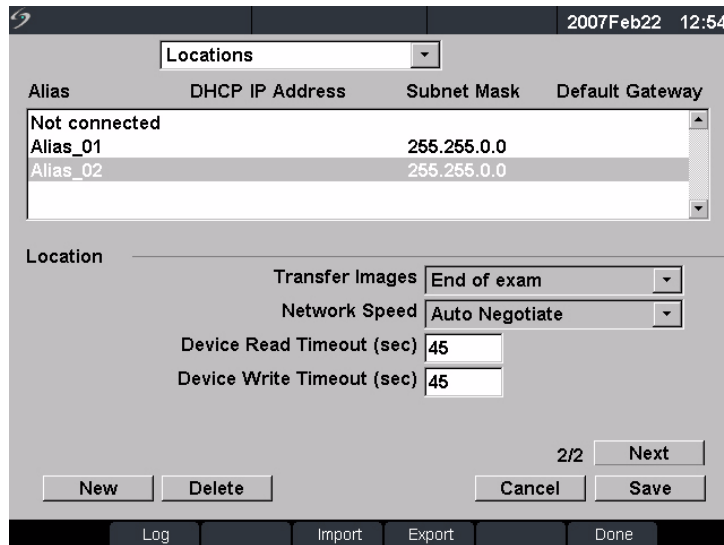

Figure 5 DICOM Locations Configuration (Page 2)
- 1 Enter network information in the following fields. See Figure 5.